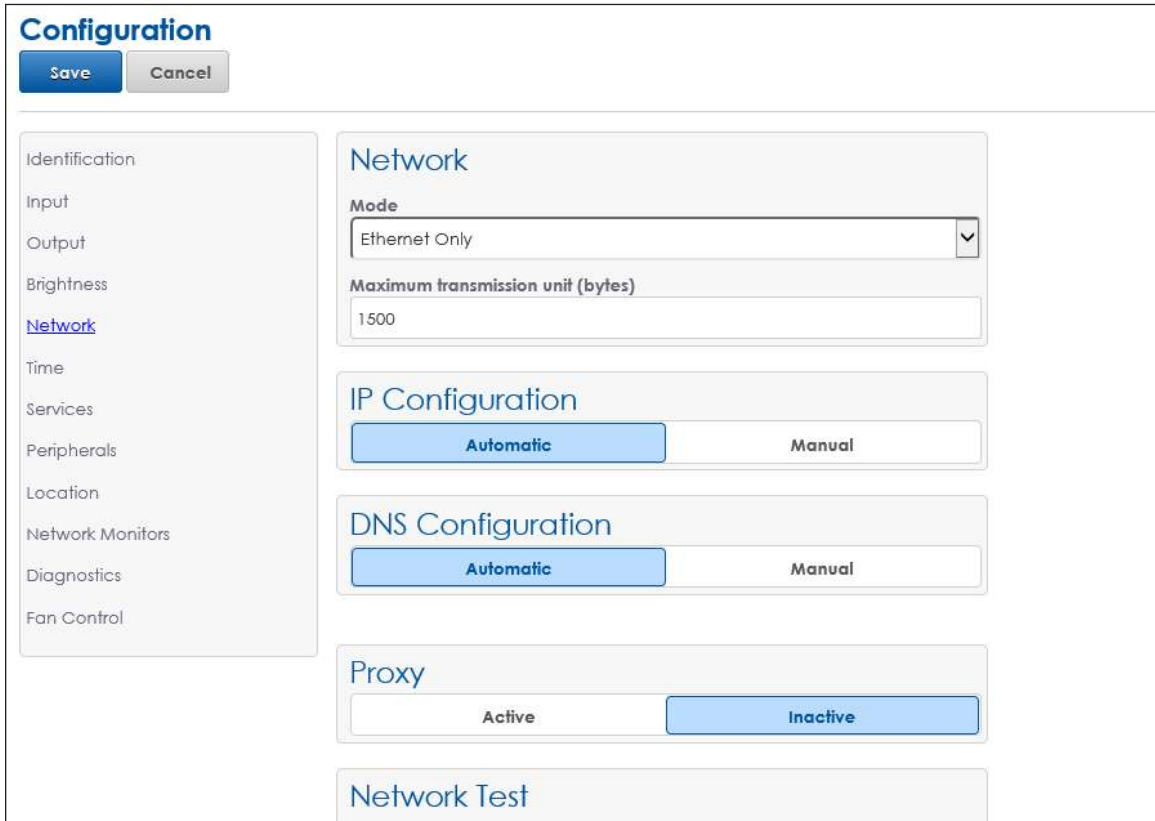

Figure 34: Configuration - Network
Network sets the network configuration for the processor and tests the network connection. Configure both the Internet Protocol (IP) address and the Domain Name Server (DNS) address to communicate with the local area network (LAN). Refer to **Figure 34**.